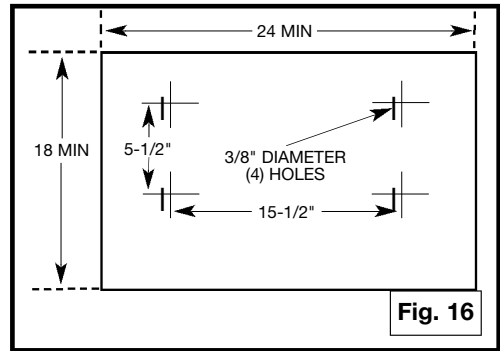

Fig. 16
- Alternately, you can secure the sander by fastening it to a mounting board 18" x 24" or larger. The diagram in Fig. 16 shows the size and center-to-center distance of the holes that you will need to drill in the mounting board.